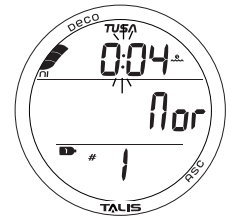

Fig. 78 - NORM SURF MAIN (< 10 min after surfacing)
**NORM Surface Main**, information includes (Fig. 78):